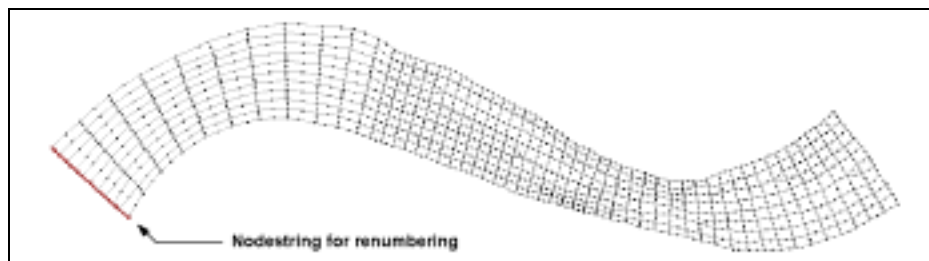

Figure 3-12. The position of the nodestring for renumbering.
2. Create a nodestring across the left section, as shown in Figure 3-12.